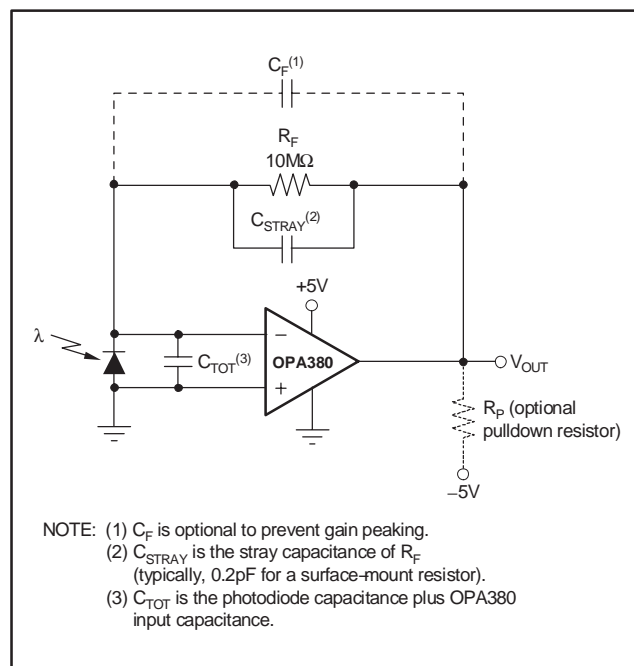

Figure 5. Transimpedance Amplifier
(1) 300-hour life test at  $150^\circ\text{C}$  demonstrated randomly distributed variation approximately equal to measurement repeatability of  $1\mu\text{V}$ .
(2) Tested with output connected only to  $R_P$ , a pull-down resistor connected between  $V_{OUT}$  and  $-5V$ , as shown in Figure 5. See also applications section, *Achieving Output Swing to Ground*.
The key elements to a transimpedance design are shown in Figure 5: